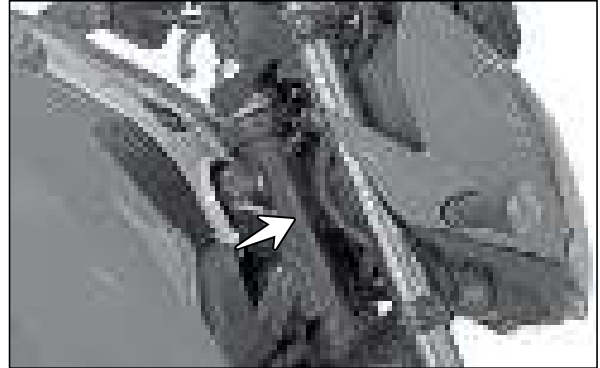

Fig. 1.5
- The frame serial number is stamped on the right side of the steering head tube. (Fig. 1.5)